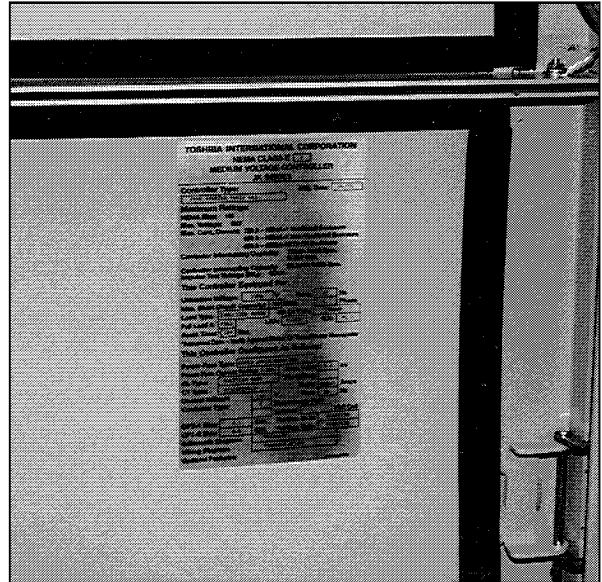

Fig. 32 Data Label on Controller
□ There is a rating data label (Fig. 32) on the inside of each medium voltage compartment door. Verify that the controller ratings properly match the system data by checking the following: